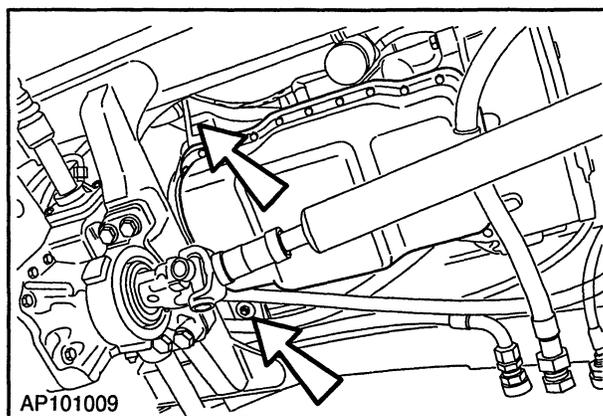

Figure 1-9
27. With the engine supported and using a hoist capable of supporting a total weight of 800 kg (1760 lb) loosen and remove the engine and transmission mounting bolts, Figure 1-9.